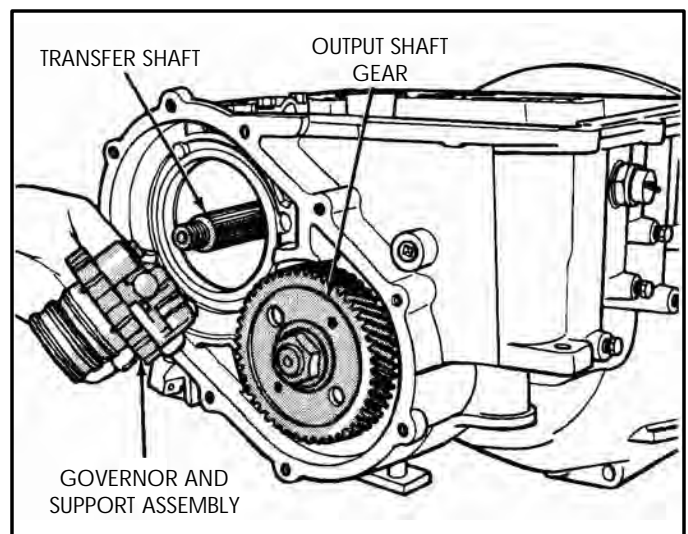

Figure 124
9. Remove the governor and governor support as an assembly, as shown in Figure 124, and refer to Pages 50 and 51 for service.